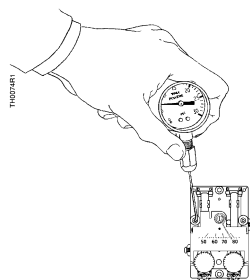

Figure 4. TH192 HC Output Pressure Test Port
The output pressure test port (*Figure 4*) is accessible without removing the thermostat cover through the 8th opening:
- Moisten the needle and insert the test gauge and needle adapter in the test port (*Figure 4*). Read the control pressure.
Before troubleshooting the thermostat per *Table 1*, make certain there is clean dry supply air at 18 psi (124 kPa) minimum. Use the test probe gauge and needle adapter to measure the control pressure at the output pressure test port (*Figure 4*). The output pressure test port is accessible without removing the thermostat cover through the 8th opening from the top as follows: